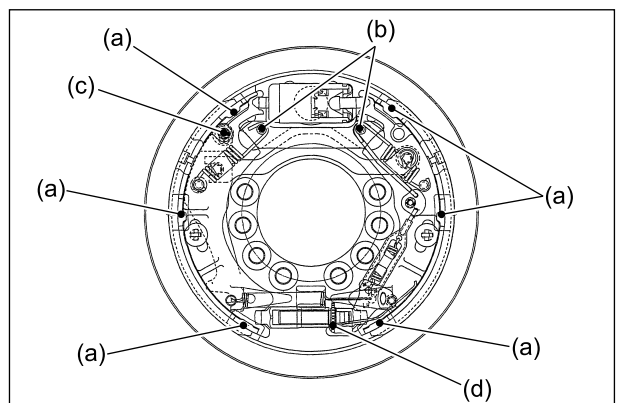

Fig. 3.274
- ④ Apply heat-resisting grease to the following areas (shown in Figure 3.274):